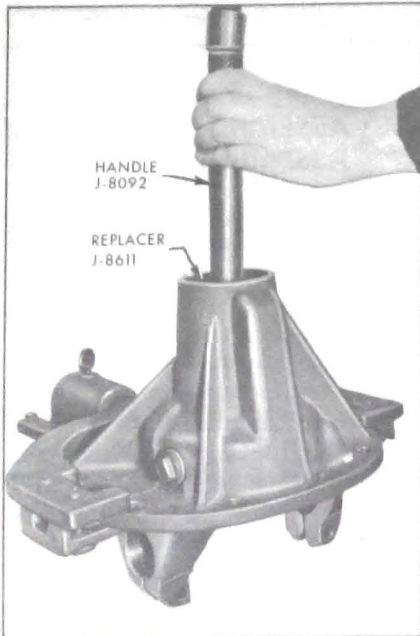

Figure 6-19—Installing Front Pinion Bearing Outer Race
1. Drive front pinion bearing outer race against shoulder in carrier using Replacer J-8611 with driver handle. See Figure 6-19.